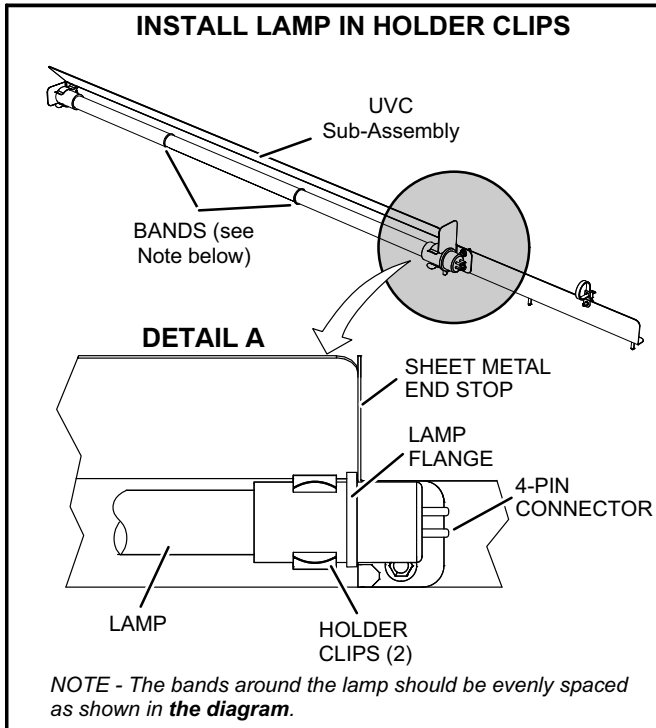

FIGURE 38
- 7- Wear cotton gloves or use a cotton cloth when handling the new lamp. Place the new lamp in the holder clips of the UVC assembly. Verify that the lamp flange at the connector end is sandwiched between the lamp holder clip and the sheet-metal end stop (see figure 38).